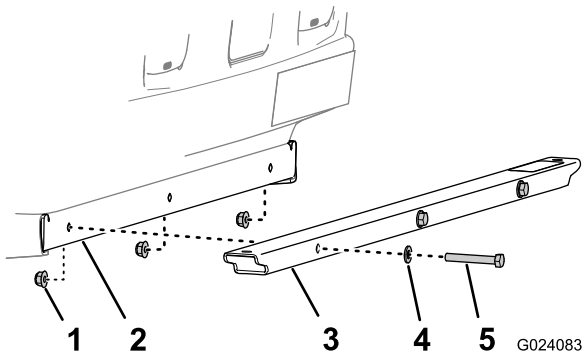

Figure 8
1. Align the holes in the front-light support with the holes in the front channel of the chassis (Figure 8).
2. Secure the light support to the channel with the 3 bolts (5/16 x 2-1/4 inch), 3 washers, and 3 flanged locknuts (Figure 8).